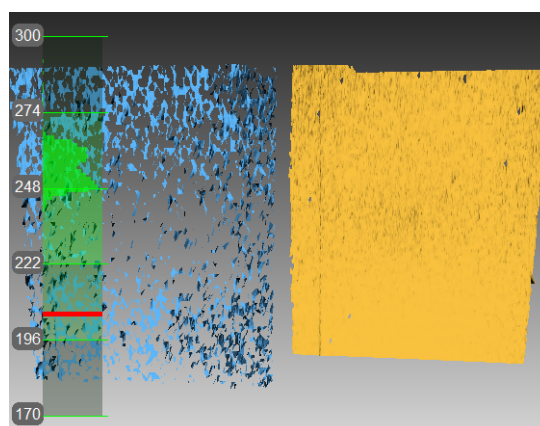

Figure 8.5: **Spider** correction results
Due to careless handling or transportation (jolting, accident drop, some other reasons), scanner may become unable to capture surfaces properly. In this case surfaces being scanned may be partially reconstructed, holes may appear (results of bad reconstruction are noticeable on the blue surface, see figure 8.5). These issues can be fixed through applying correction or calibration.
9. Repeat the step #8 three more times. As you finish, the calculation will start and the yellow plane corresponding to the surface captured with corrected calibration settings will appear in 3D View window (see figure 8.5).